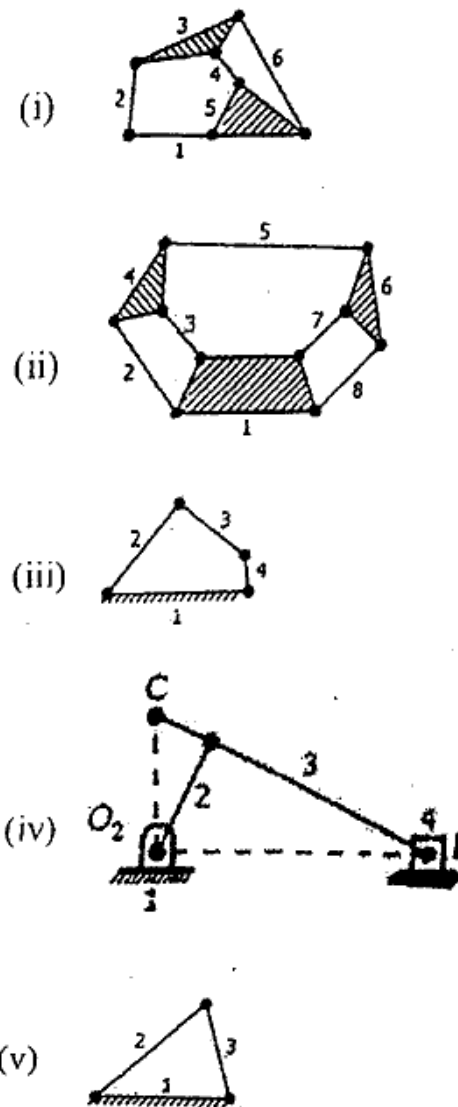

Fig. 1
1. (a) Find the degrees of freedom of the linkages shown in Fig. 1. 5